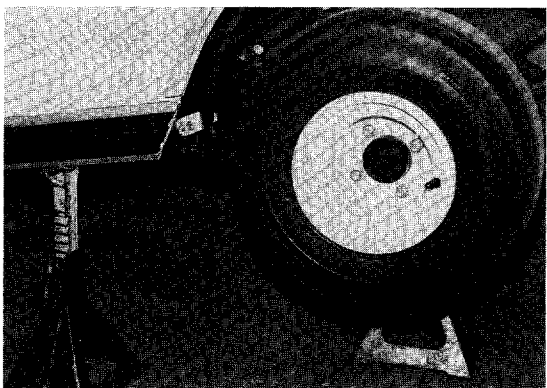

Figure 11-7
1. Lift rear of car with chain hoist or floor jack, place jack stands under frame side stringers on each side forward of each rear wheel. Lower lifting device to let jack stands support car (Figure 11-7).